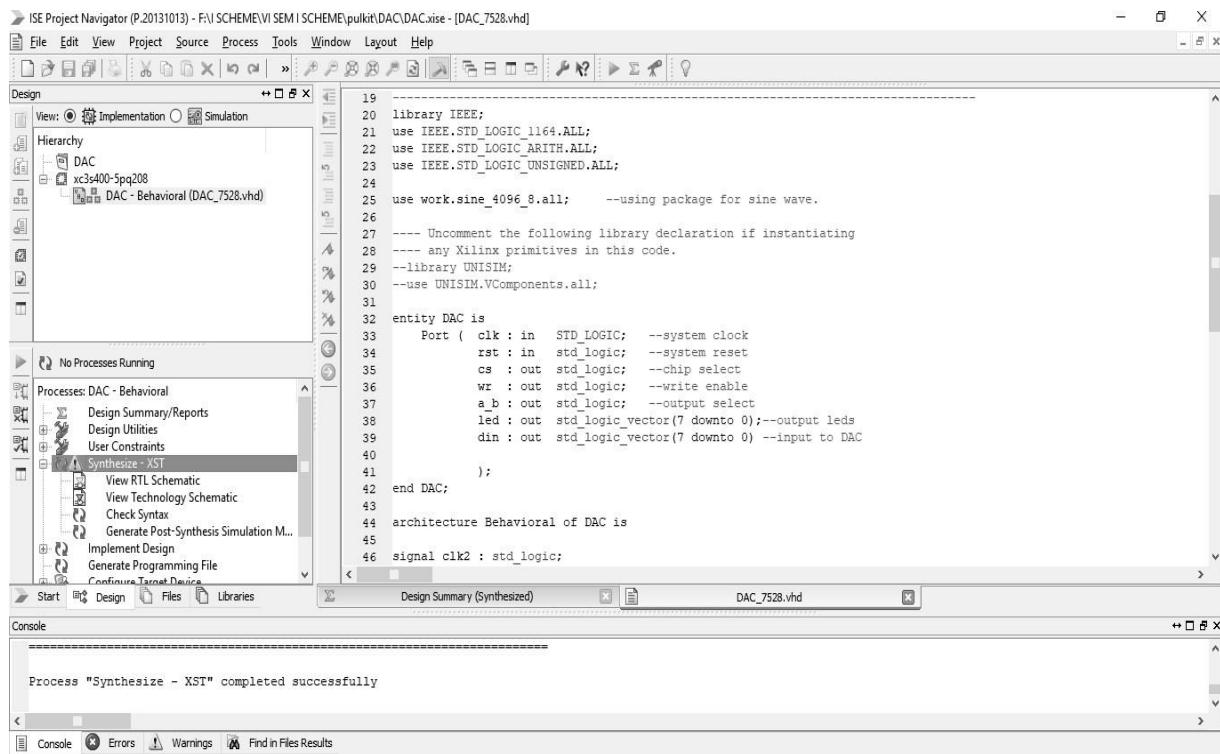

Fig. no. 15.3: .vhdl file diagram
4. Develop VHDL code for given problem and Synthesize the .vhd file and view RTL schematic. Ref Fig no.15.3.